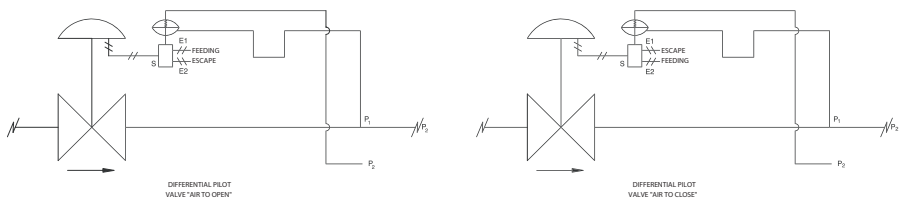

Fig. 2 – Typical installations of valves with type 02 pilot
4.9 **45 Series** Type 02 pilot valve fittings (figure 2), differential, should be performed as follows:
In the disassembly procedure description, our reference shall be figures 2 and 3, except when adversely recommended.